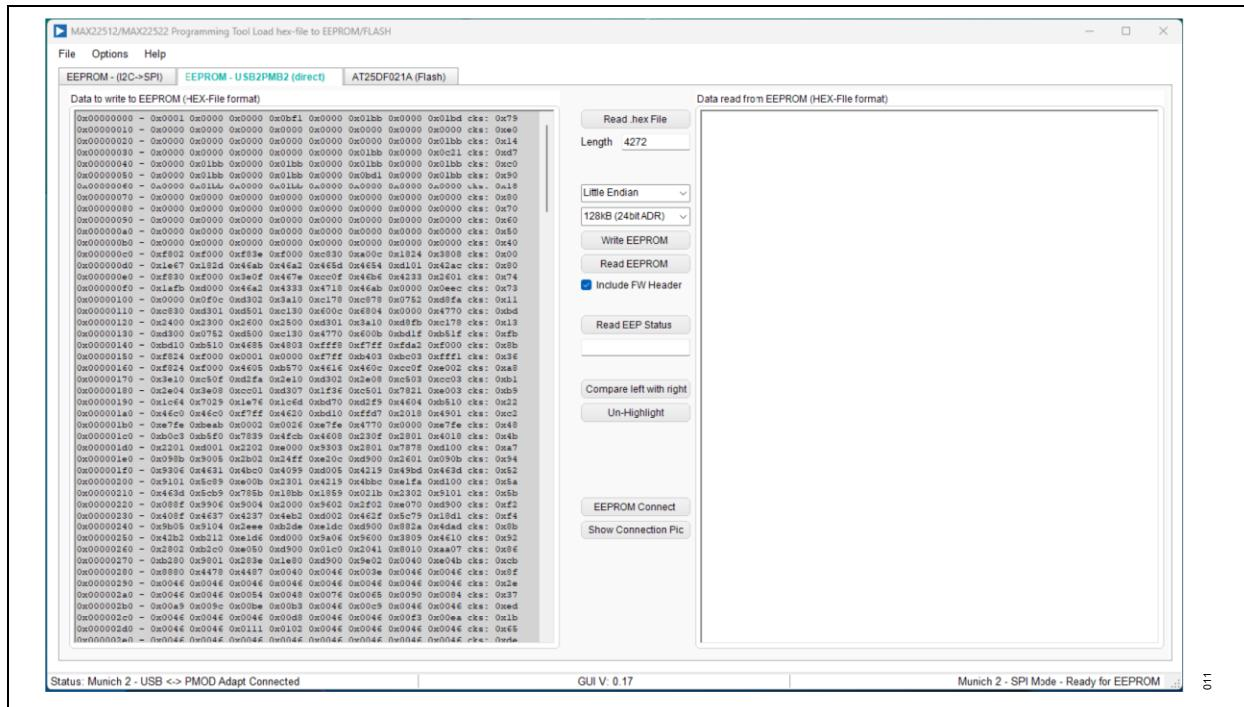

Figure 10. Data to Write to EEPROM Window in GUI before Write is Started
4. Click the **Read .hex File** button and select the hex file for the information to program into the EEPROM. Once the hex file is select, the window on the left side of the GUI, **Data to write to EEPROM (HEX-File format)** fills with the data to write. The length of the hex file appears in the **Length** box. See Figure 10.